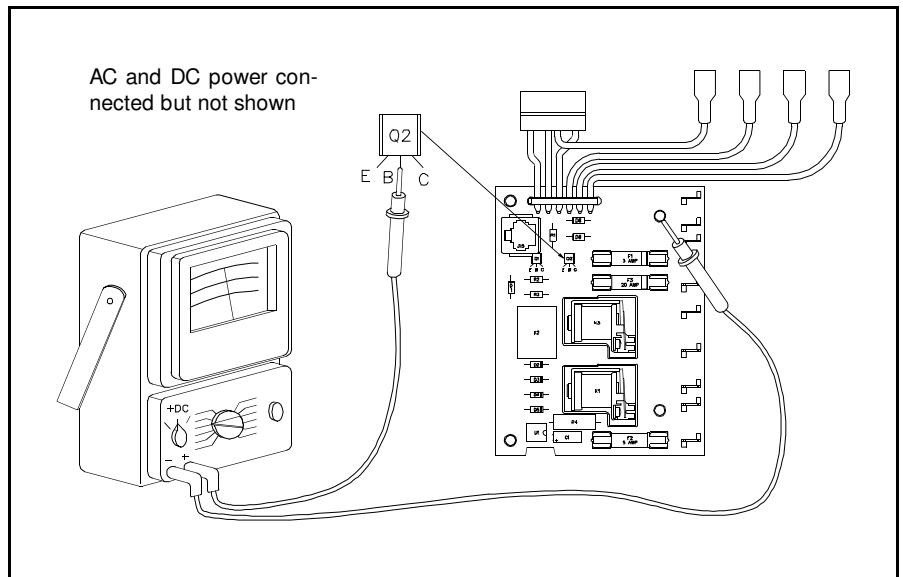

Figure 11.38 12 Volt Check at Q2 Base
- With Mode Selector at GAS and 12 Volts present at the emitter of Q2, check for 10 volts DC at the base of transistor Q2 on the Power Supply as shown by Figure 11.38. If you do not have 10 volts the Power Supply is defective and must be replaced.